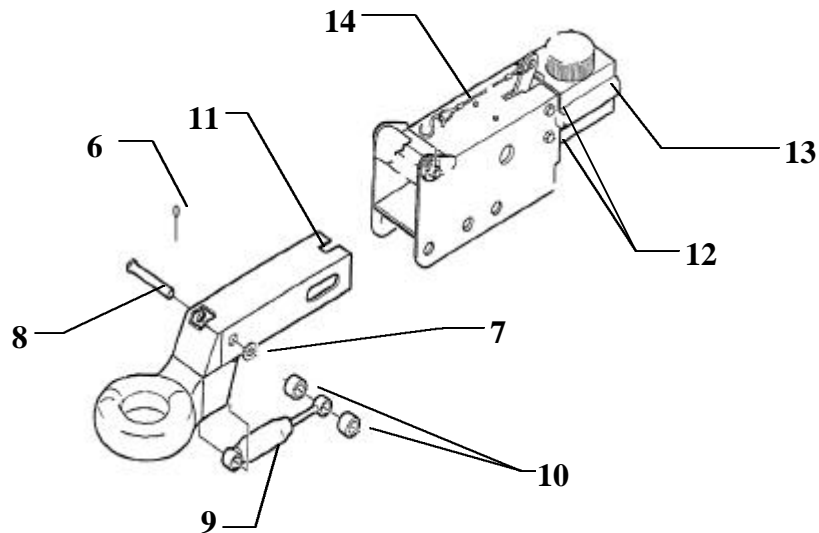

Figure 2
3. Remove damper cotter pin (6), washer (7) if installed and damper pin (8) from front of inner slide (5). Discard cotter pin and washer. (figure 2)
4. Remove damper (9). Check for leaking and corrosion on rod. (figure 2)
Save damper (9) and front damper pin (8) for re-use. Replace damper if leaking or corrosion can't be removed. Discard rollers (10) and inner slide (11). (figure 2)
5. Remove four brake master cylinder mounting bolts (12) holding master cylinder (13) to housing (14) (figure 2). Do NOT disconnect hydraulic hose. Discard removed four master cylinder mounting bolts.